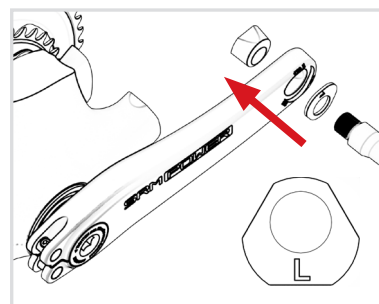

FIG. 6
- Proceed accordingly with the Tri-lobed nut marked with "L" on the Non-Drive side crankarm (Fig. 6).